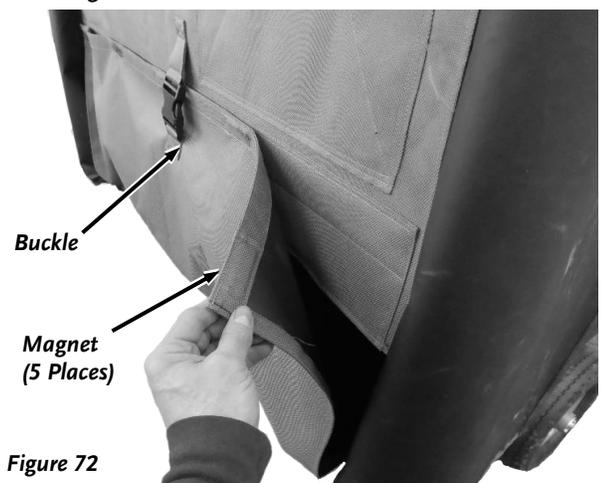

Figure 72
5. Separate the top and bottom Door Flaps by disconnecting the Buckle and then pulling the bottom Door Flap down to release the Magnets (**Figure 72**). Fold the bottom Door Flap under the Bed to attach the Magnets underneath. The top Door Flap can be left hanging down.